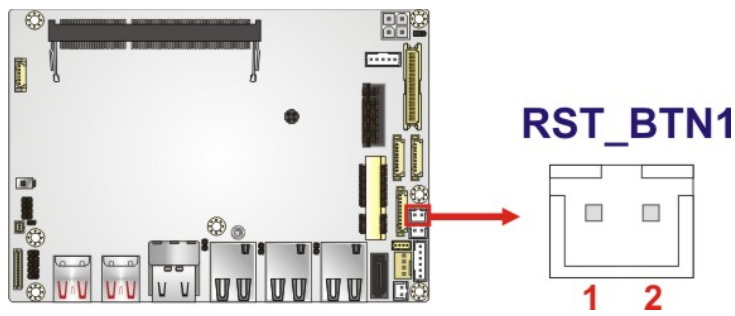

Figure 3-15: Reset Button Connector Location
- CN Location:** See **Figure 3-15**